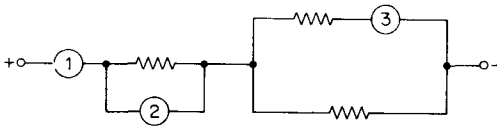

Fig. 2.104
32. In Fig. 2.104 the circles represent either ammeters or voltmeters. For each circle state which instrument is represented.